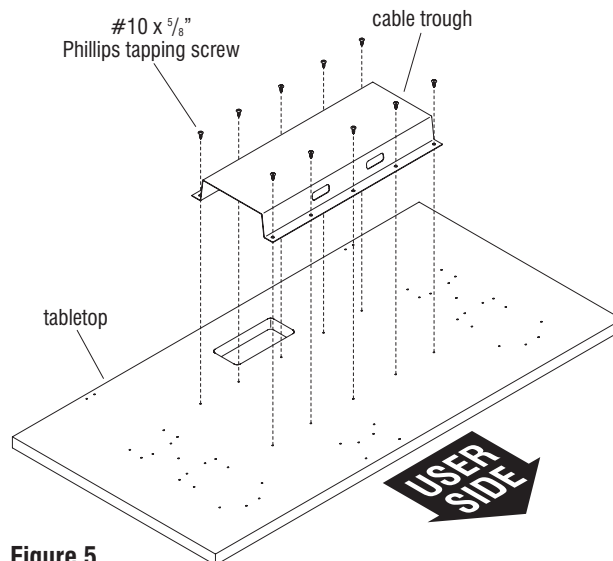

Figure 5
- Carefully place the tabletop upside down on a soft, protective surface. Take note that the "user side" of the tabletop has pilot holes for the cable actuator assembly near the middle, front edge (Figure 5).
- Position the cable trough over the tabletop underside as illustrated, with the two smaller rectangular openings in the trough facing the user side of the table. Align the cable trough mounting holes with the pre-drilled holes in the underside of the tabletop and secure using ten $\#10-16 \times 5/8$ inch Phillips tapping screws. Do not over-tighten (Figure 5).